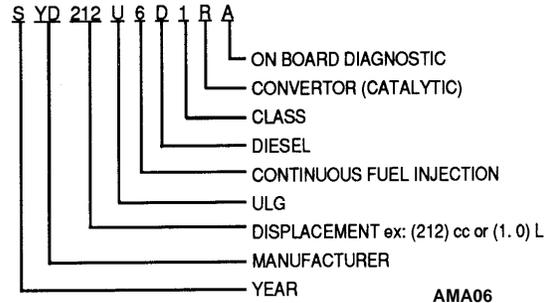

Figure 8: Engine Family Name
- b. Engine Family Name, as assigned by the California Air Resources Board, identifies engine family group, by largest displacement, within an engine family, and is shown in Figure 8.